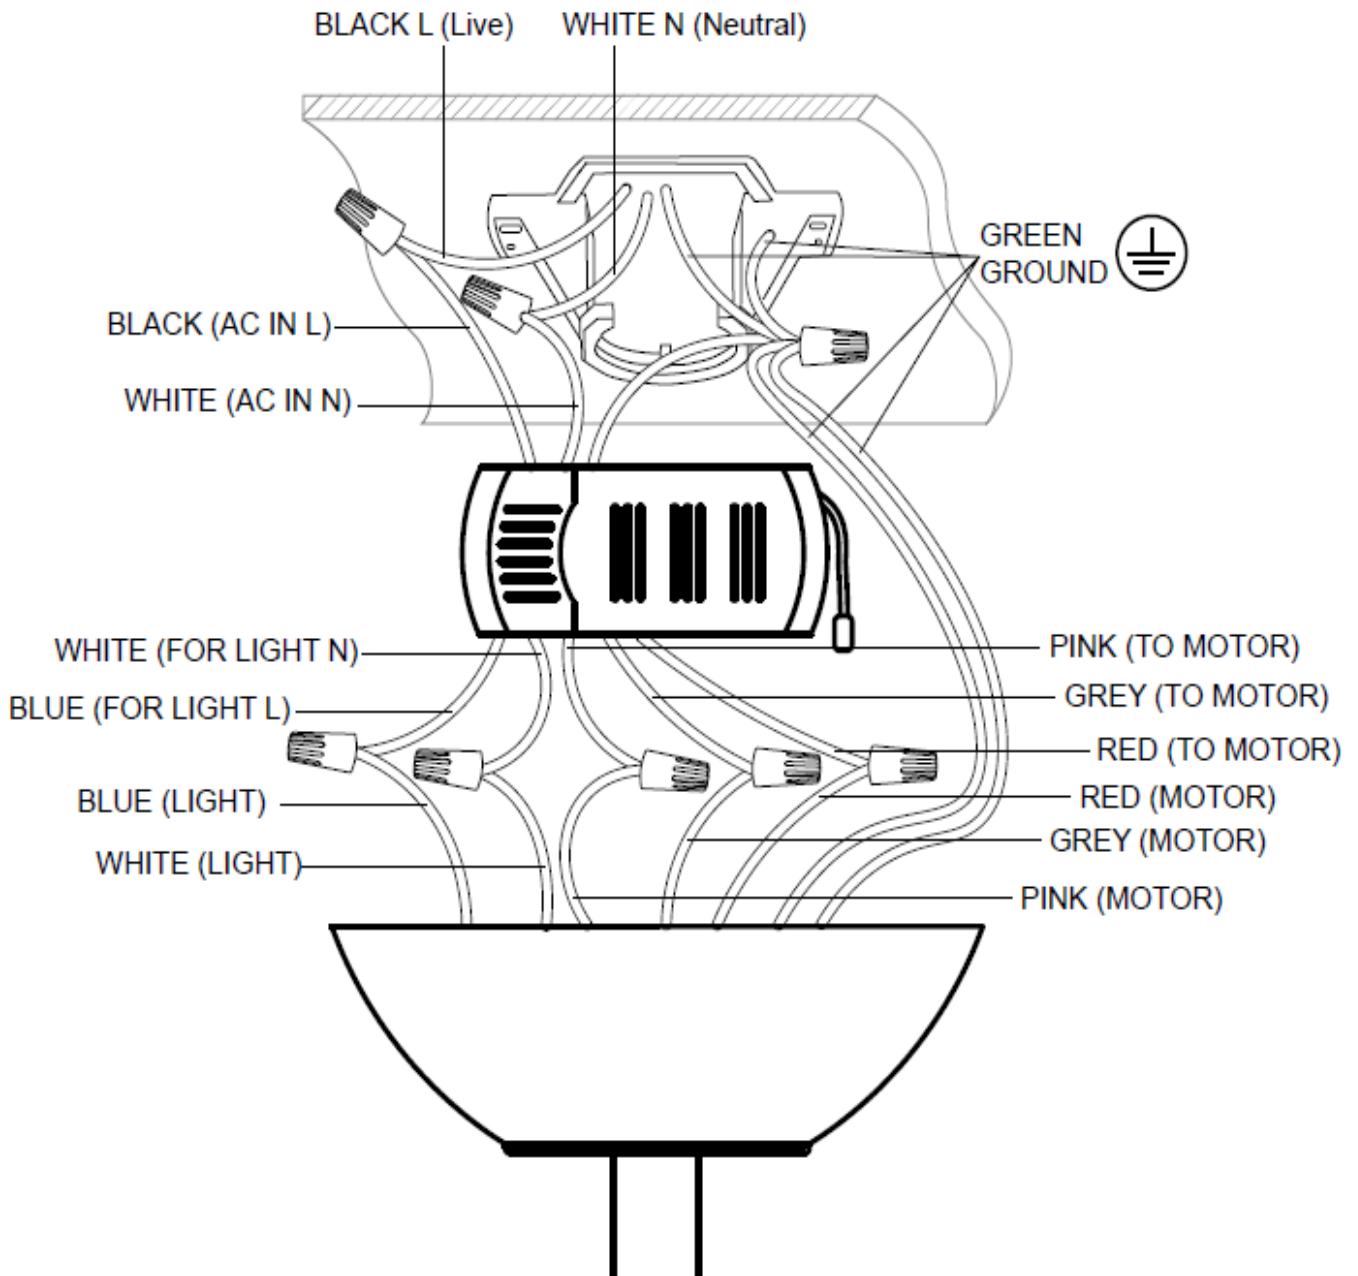

Fig. 12
2. Connect the household live supply wire (black) to receiver input wire (black, AC IN L) as shown in **Fig. 12**.